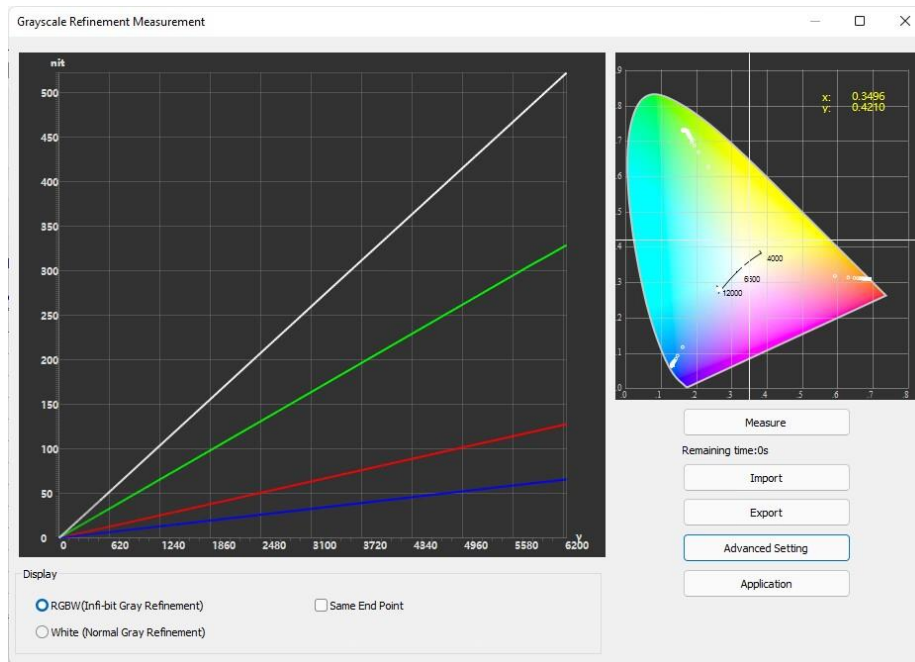

Fig 6.3.3.5 Grayscale refinement measurement
Step 3: Set the grayscale refinement measurement mode to match the grayscale mode of the gamma table. Click the **Measure** button, then the color meter begins to measure the data. As shown in Figure 6.3.3.5.